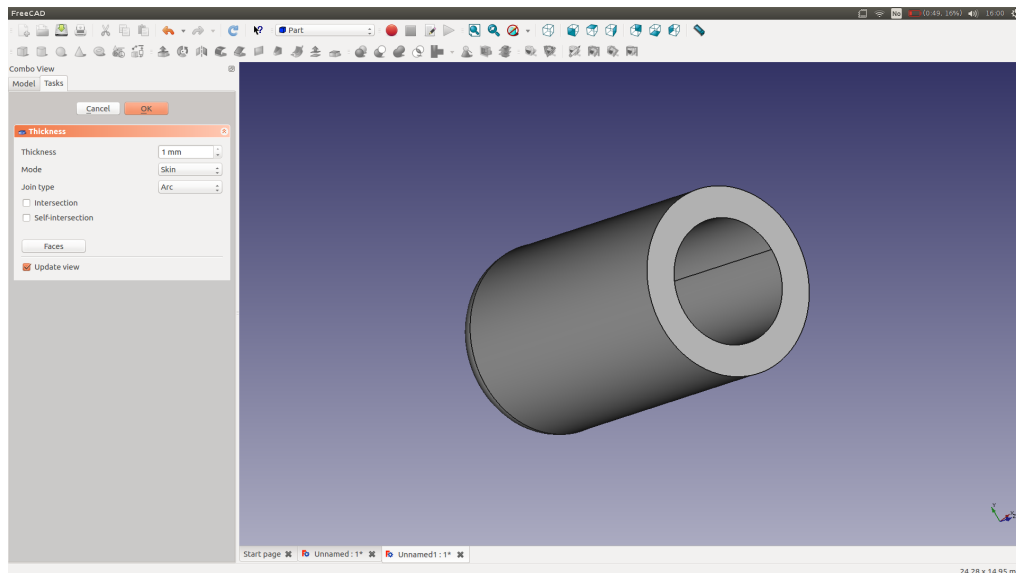

Figure 3: Dialog boxes are often used by FreeCAD to get user input.
- Click on the **Utility to apply a thickness** button. The shape gets updated and you enter a dialog box looking like in Fig. 3 to set the fine tuned options of the tool. You can move around the modified cylinder to observe it. It is not yet a tube, so we should work a bit with the dialog box to get what we want.